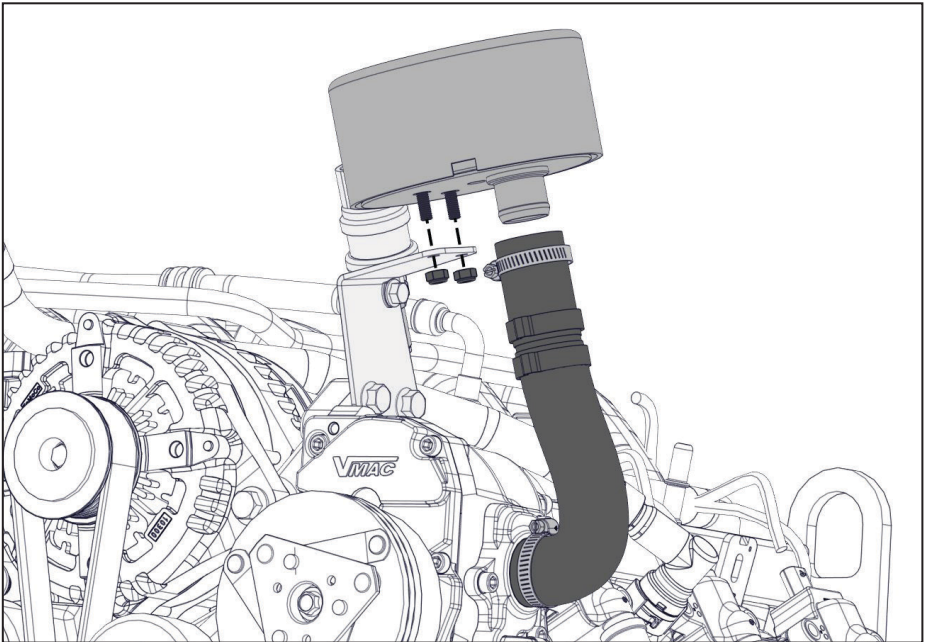
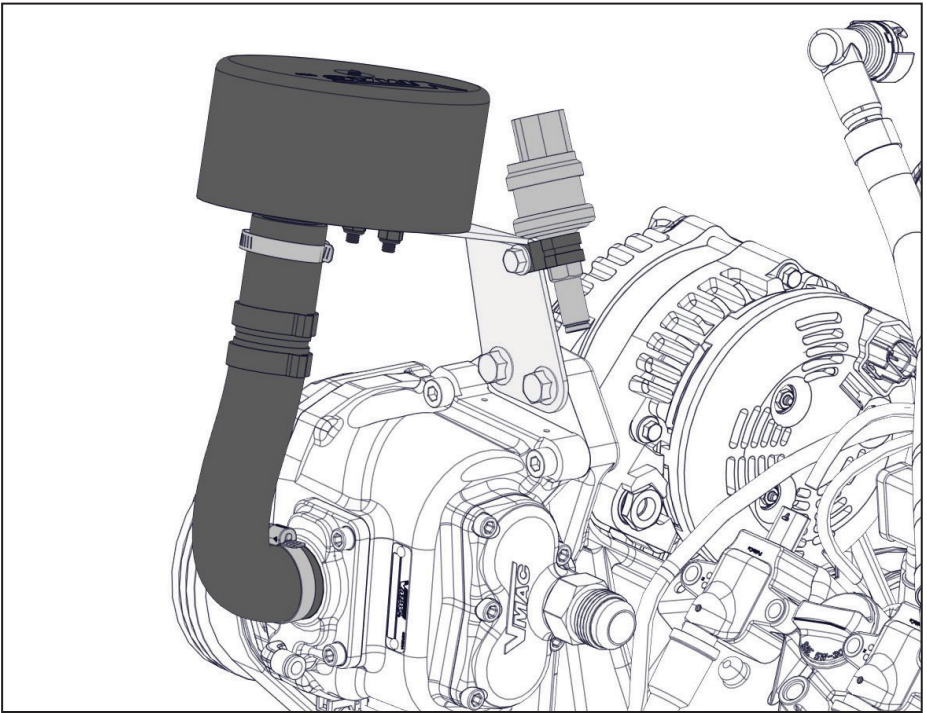

Figure 14 — Install air filter assembly
Figure 15 — Pressure switch and air filter assembly
- Mount the air filter assembly onto the compressor (Figure 14, Figure 15 on page 16).